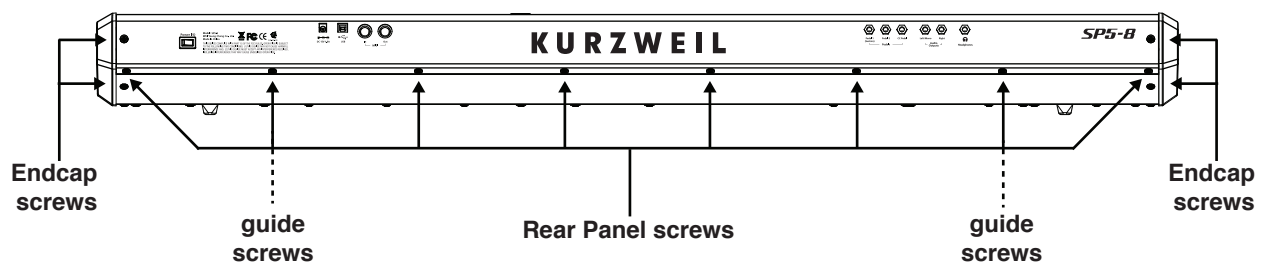

Figure 4-2 SP5-8 rear panel, hardware locations
2. Refer to Figure 4-2. Remove the two screws that secure the endcap to the rear panel portion of the SP5-8.
1. Refer to Figure 4-2. Loosen the two guide screws. You do not need to remove these screws.
4. Install the six screws in the SP5-8 bottom enclosure (see Figure 4-2).